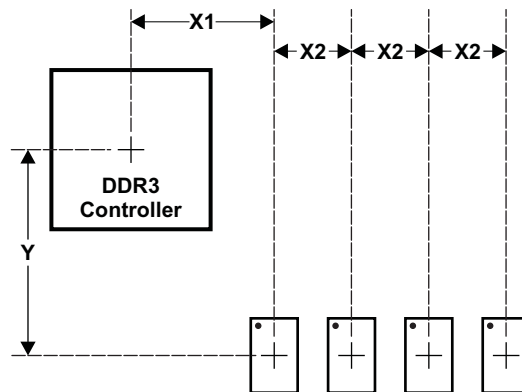

Figure 8-56. Placement Specifications
Figure 8-56 shows the required placement for the processor as well as the DDR3 devices. The dimensions for this figure are defined in Table 8-70. The placement does not restrict the side of the PCB on which the devices are mounted. The ultimate purpose of the placement is to limit the maximum trace lengths and allow for proper routing space. For a 16-bit DDR memory system, the high-word DDR3 device(s) are omitted from the placement.
- (1) For dimension definitions, see Figure 8-56.
(2) Measurements from center of processor to center of DDR3 device.
(3) Minimizing X1 and Y improves timing margins.
(4) w is defined as the signal trace width.
(5) Non-DDR3 signals allowed within DDR3 keepout region provided they are separated from DDR3 routing layers by a ground plane.
(6) If a device has more than one DDR controller, the signals from the other controller(s) are considered non-DDR3 and should be separated by this specification.